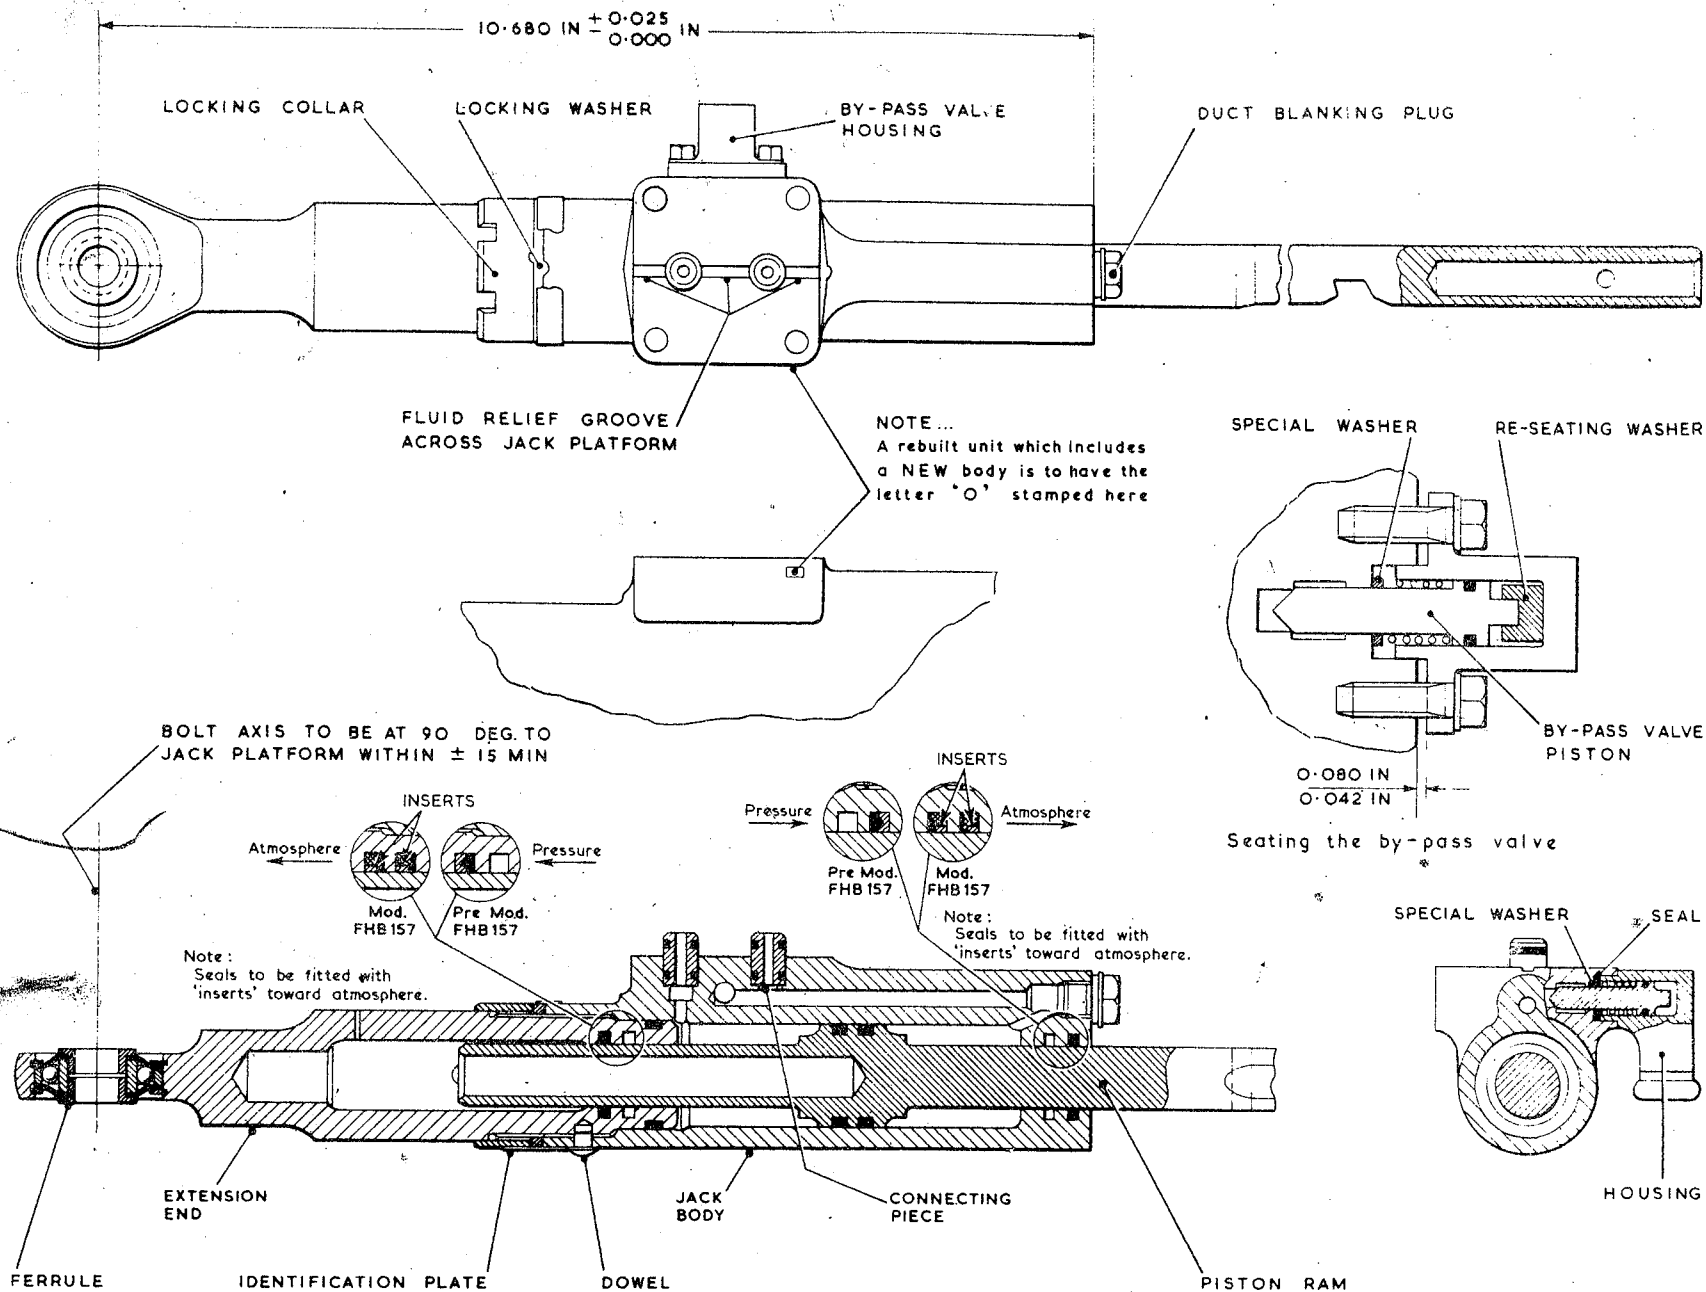

Fig. 1 Jack AH 25999
- (1) Ensure that the valve piston and seat are clean and free from visual defects.
- (2) Position the re-seating washer FHQ 2284 in the valve housing (fig. 1) and insert the valve, complete with seal and spring, into the housing.
- (3) Position the special washer in the jack body counterbore, assemble the valve and housing to the jack, and with the securing bolts screwed down finger tight only, check the clearance between the housing and the jack body. If the clearance is within the limits given (fig. 1), then proceed in accordance with operation (4) of this paragraph. Should the clearance not be within these limits, then the procedure given in A.P. 105D-1305-6, is to be adopted.
- (4) Continue to tighten the bolts evenly but not more than is necessary to achieve a satisfactory seating. In doing this, the clearance between housing and body must not be reduced by more than 0.010 in, and
- (1) Screw the locking collar on to the extension end and position the locking washer.
- (2) Slide the ram into the jack body and screw in the extension end.
- (3) With the aid of setting jig FHQ 160 or the dimensions given (fig. 1), set the position of the extension end and align its eye end. Using hook spanner FHQ 110/4 tighten the locking collar but do not peen the locking washer.
- (4) Remove the jack from the jig and ensure that the ram will stroke and rotate freely at all positions of the stroke.
- (5) Drill into the extension end through the existing hole in the jack body; drill $\frac{3}{16}$ in dia 0.23 in deep, measured from the surface of the jack body.
- (6) Dismantle the jack in preparation for final assembly.
- (2) Well moisten four new ram seals with hydraulic fluid and carefully fit two into the jack body and two into the grooves of the extension end bore. Ensure that these seals are fitted so that their white inserts are toward atmosphere when the jack is assembled, as illustrated in figure 1.
If the rubber/fabric (pre Mod. FHB 157) type ram seals are still being used, then only two are fitted, one in the jack body and one in the extension end. These seals are fitted in each case with the rounded rubber face to pressure and the flat fabric face to atmosphere (fig. 1).